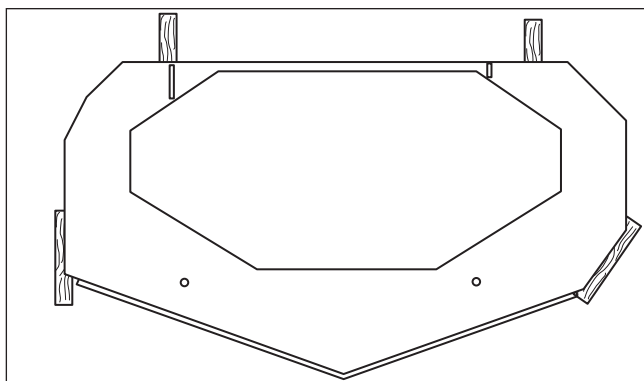

Figure 42. 2 x 4 Locations
3. Place 2 x 4 blocks under each corner of the mower deck with the 3-1/2" sides being vertical. See Figure 42.